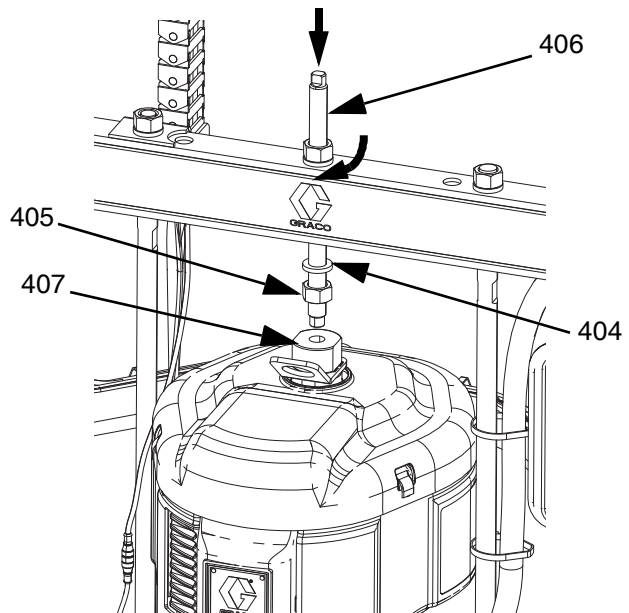

FIG. 47
- b. Install threaded rod (406) through center hole in the Ram. Install lock washers (404) and nuts (405) onto threaded rod (406), both above and below tie bar. Use a wrench to hold lift ring adapter (407) and tighten threaded rod (406) into lift ring adapter (407) using another wrench. See FIG. 47.
- c. Tighten nut (405) below tie bar to 25 ft-lb (34 N•m) maximum.
- d. Tighten nut (405) above tie bar to lock Air Motor (B) in place.